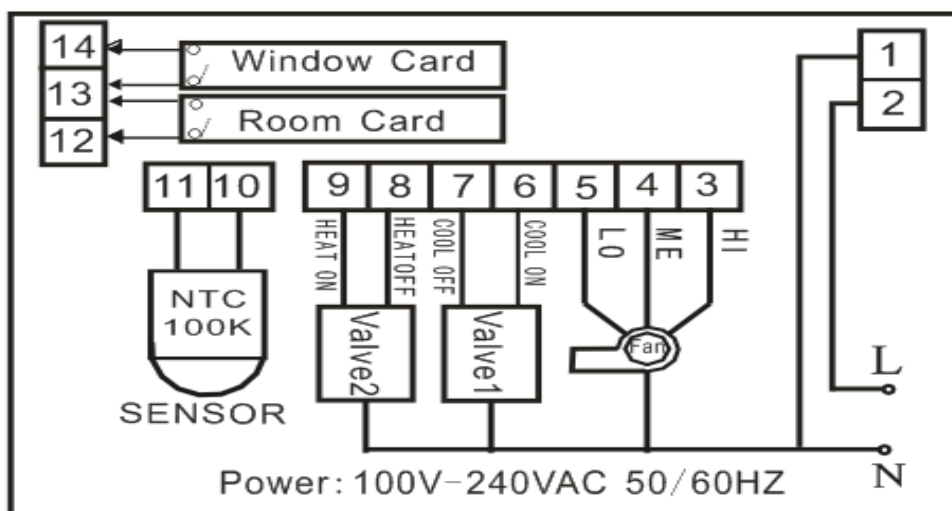

Figure 2
- Connect wires beneath terminal screws on power supply module using appropriate wiring schematic. See figure 2.